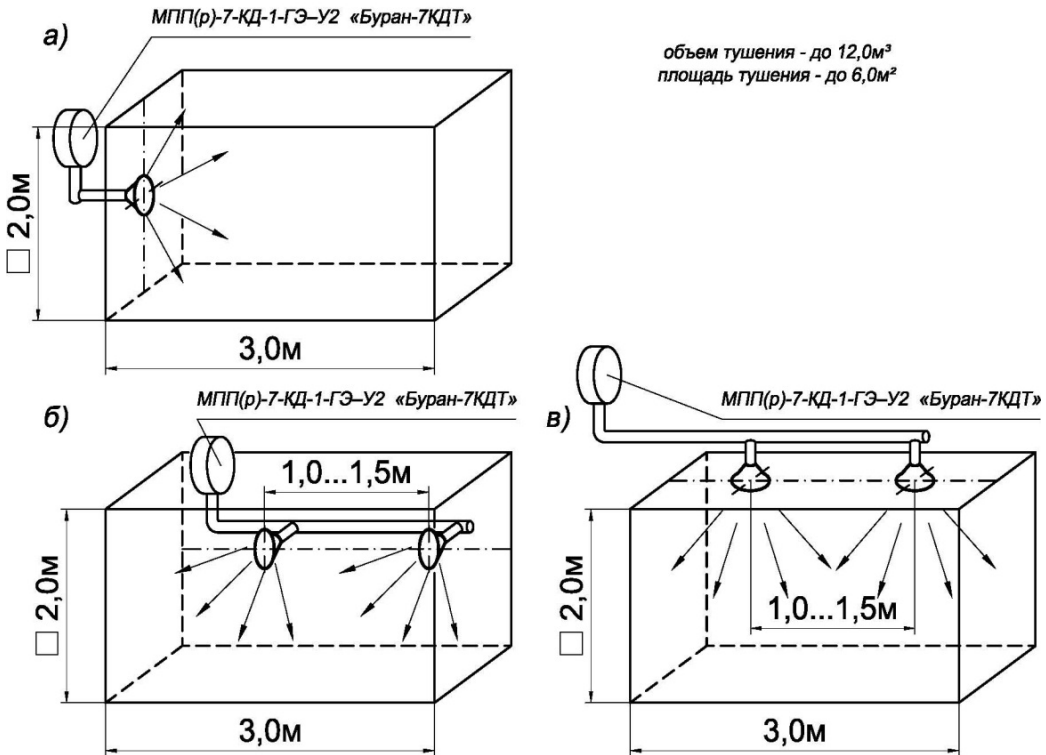

Fig. 3. Scale icon of the powder scattering configuration of «Buran-7STT» on Class A & B fires
6.3. The scale icon of the powder scattering configuration where fire extinguishing has stable results is shown in fig. 3.